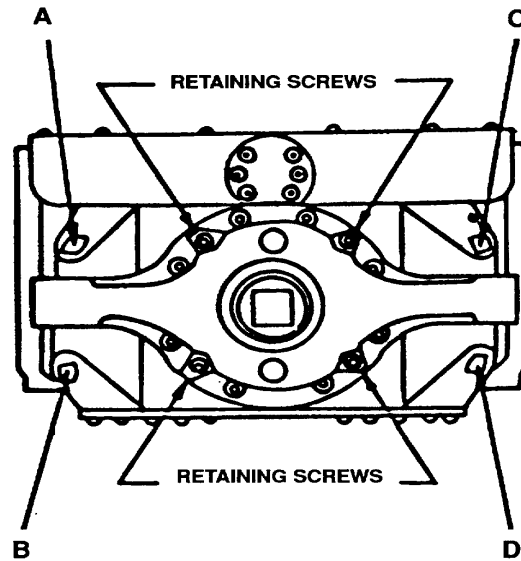

Figure 1. Torque wrench - adjustment locations.
Reaction arm must be free to move under retaining screws (fig. 1).
- (1) If TI indication error is the same in both cw and ccw directions, adjust pointer of TI dial indicator.
- (2) If TI indication error is not the same in both directions, perform (3) through (10) below.
- (3) Remove sealant from the four adjustment screws A, B, C, and D (fig. 1) on the back of TI.
- (4) Using appropriate size Allen wrench, back off screws A and B (fig. 1) at least three turns.
- (5) Adjust screw C (fig. 1) until a pressure reading is shown on indicator, then back off screw until indication returns to 0.
- (6) Check spacing between the reaction arm on sensing unit housing and reaction ears. If reaction arm is not centered between ears, adjust screws C and D (fig. 1) until sensor is centered.
- (7) Turn screw A (fig. 1) inward until a pressure reading is shown on indicator and then back off to 0 plus one-quarter additional turn.
- (8) Turn screw B (fig. 1) inward until a pressure reading is shown on indicator and back off to 0.
- (9) Repeat **a** above and adjust screws B and C (fig. 1) slightly to bring TI indications within tolerance (R).